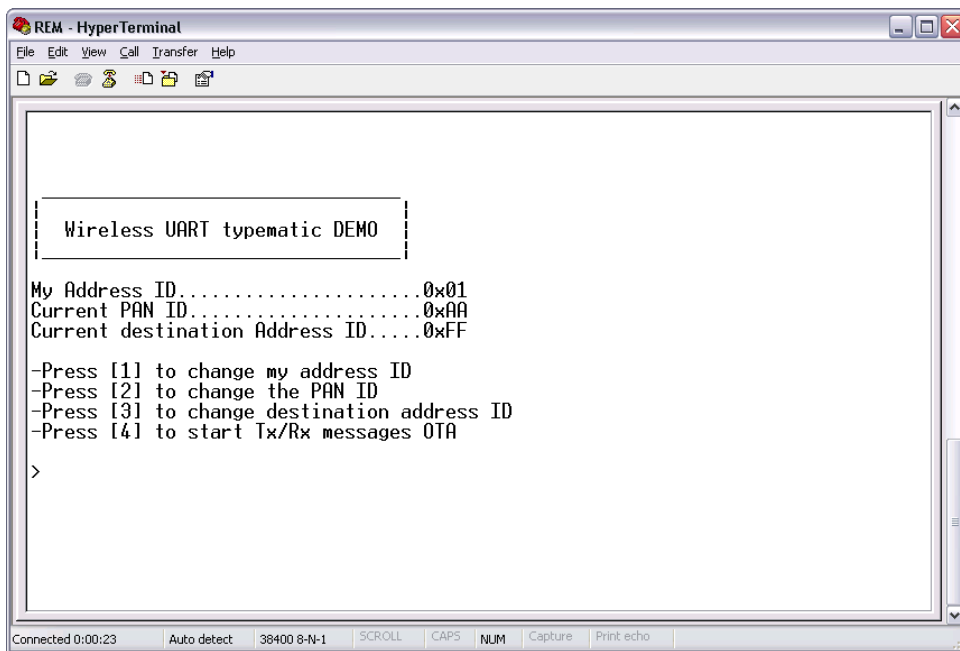

Figure 5-1. Wireless UART Application
3. Connect the board that is running the WirelessUART application to the serial port of the PC and press that board’s reset button. A menu appears on the PC display as shown in Figure 5-1.